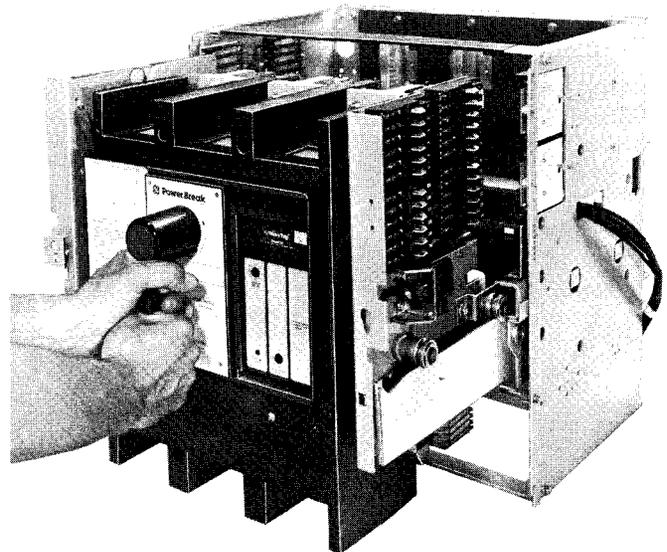

Fig. 6
3. Make sure grooves in all rollers straddle rails, Fig. 6, then remove lifting bar and push the breaker into the substructure until it stops. ("DISCONNECT" position). Then lift and push in rails to the stored position.
4. From the disconnected position pull the breaker out on the rails until the front rollers fall into the detent. (Fig. 6).